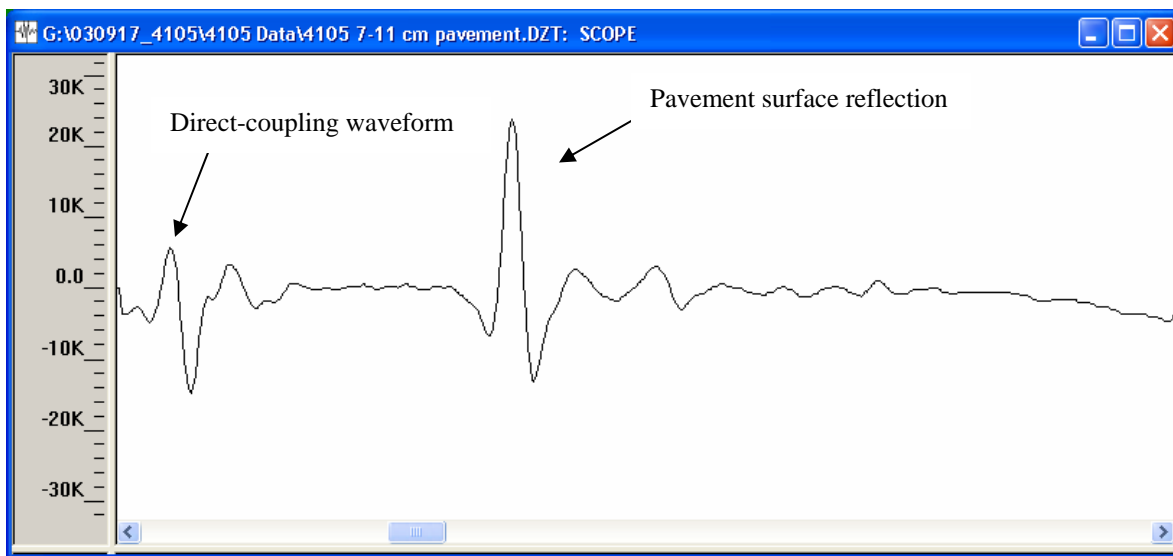
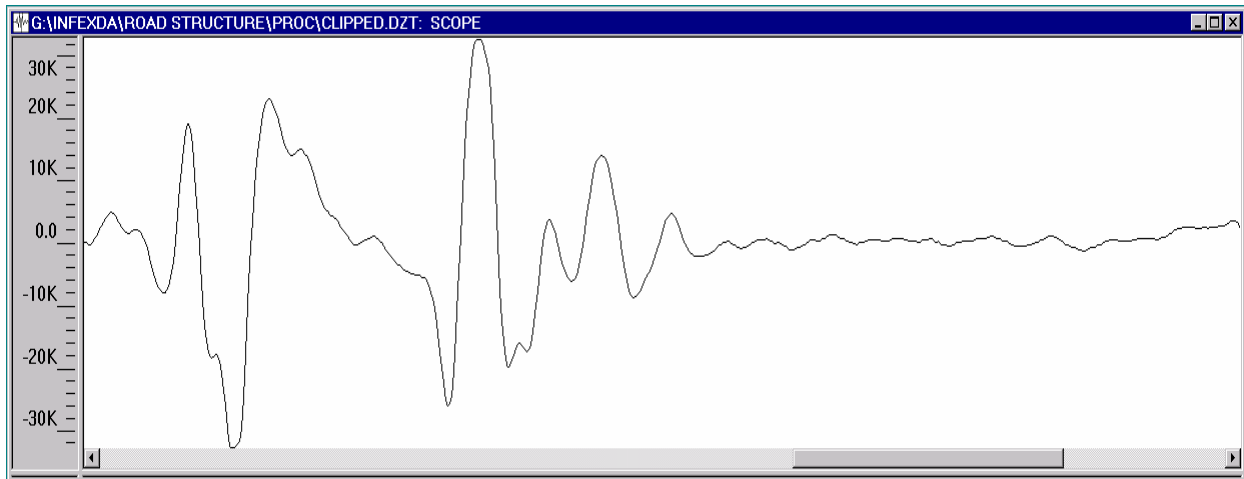

Figure 2: Typical data scan obtained with Model 4105 and recommended software settings.
Figure 3: Example of Model 4105 data scan collected with too much gain.
** Use 1 MHz IIR High Pass to remove signal slopes near bottom of scan (as shown in Figure 2).
Position: Signal position should be adjusted so that the latest arriving wavelet of the direct-coupling is near the top of the scan. This wavelet should always be visible in the data. GSSI's RADAN post-processing software requires the presence of this wavelet in the data. Figure 2 shows a typical scan of data with the signal properly positioned. The largest amplitude reflection will be the pavement surface. The next largest reflection will be desired direct-coupling waveform. This will occur several nanoseconds before the pavement surface reflection and appear in the Position window (below) as the next significant waveform to the left of that pavement surface. Unlike ground-coupled antennas, the desired direct-coupling waveform is not the first significant return in the trace. You may see another waveform that looks similar to the direct-coupling higher in the trace. You do not want this waveform, but the second one. Since the antenna and the pavement are separated by nothing but air, the trace between the pavement reflector and the desired waveform should be fairly flat (as below). If you accidentally set the position to the incorrect waveform, the post-processing will not work correctly.
Gain: Data collection gain for the 4105 antenna should be adjusted so that the peak amplitude of the pavement surface reflection is approximately 2/3 of the total screen width. For example, in Figure 2 the pavement surface reflection has an amplitude of approximately 20000 and the full screen width is 32000. **It is very important that the pavement surface reflection amplitude (and metal plate reflection when performing calibration) never reach its maximum (i.e., clip).** If they jump off of the top or the bottom of the window, they are collected with too much gain. This will cause errors in the post-processing. Figure 3 shows an improperly gained signal.
8. A message will appear on the screen indicating that settings have been changed, then the screen should change and you should see a signal similar to the signal shown in Figure 2 on the right side of the screen. The position of the signal may be shifted and the data collection settings may be slightly different than those currently recommended.